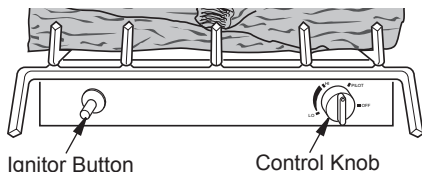

Figure 27 - Control Knob and Ignitor Button Location
5. Press in control knob and turn counter-clockwise ↶ to the PILOT position. Keep control knob pressed in for five (5) seconds (see Figure 27).